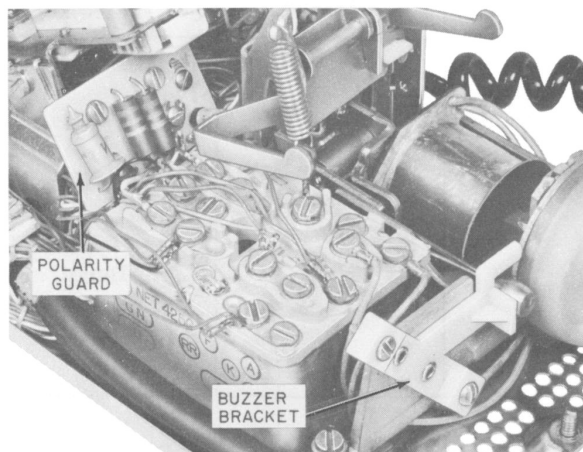

Fig. 4—P-90D052 Guard Assembly, Installed
3.07 Polarity guard protection for the 25Y3 (MD) or 25B3 (MD) dial can be provided by the installation of a P-90D052 guard assembly. Polarity guards should be installed only when authorized by local instructions to prevent battery and ground reversals encountered in end-to-end signaling. For ease of installation, make necessary connections to the terminals of the polarity guard before mounting. Install guard in set by loosening or removing right-hand dial mounting screw to facilitate placing polarity guard bracket as shown in Fig. 4. Retighten dial mounting screw. Polarity guard can not be used with sets having 25B3 (MD) dial if speakerphone is furnished.
3.08 A bracket and mounting screws are provided in the 1565-type sets for mounting a KS-8109L2 (AC or DC) buzzer (Fig. 4). Buzzer can be used in place of ringer or as an auxiliary audible signal if spare mounting cord conductors are available. A second KS-8109L2 buzzer can be installed on a 70-type bracket, ordered separately, mounted on top of the H1A ringer. The KS-20419 (10 volt AC only) buzzer is an insulated buzzer which can be